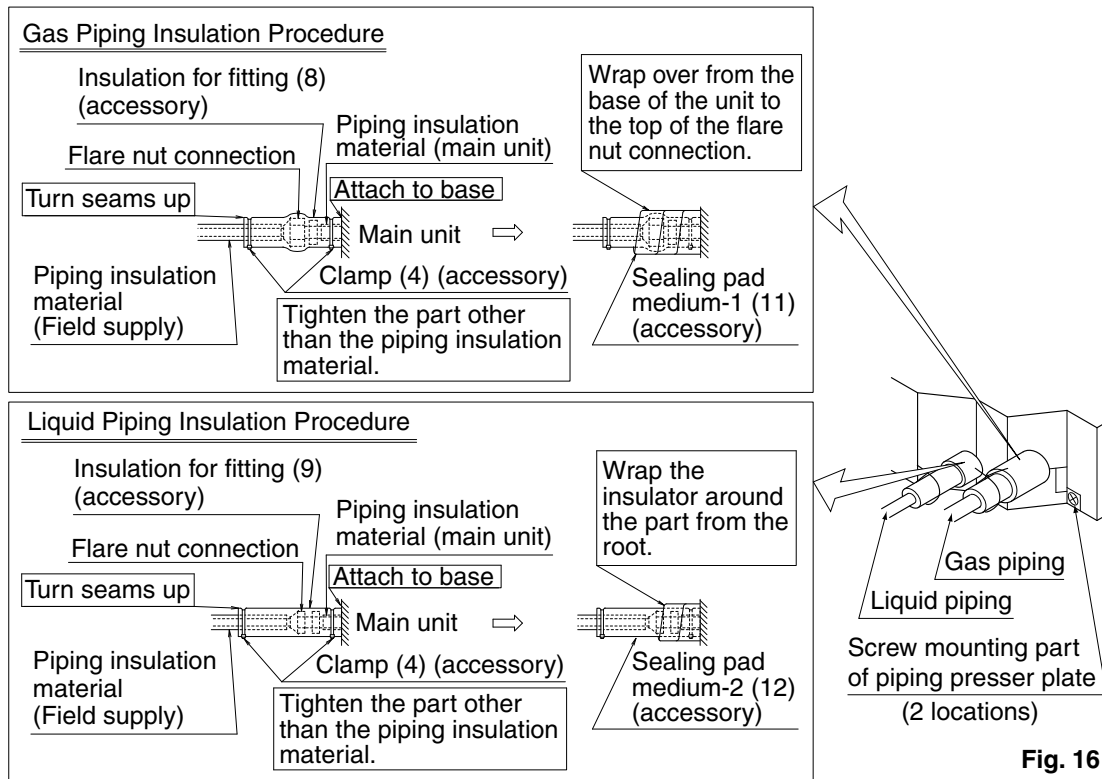

Fig. 16
- Make absolutely sure to execute heat insulation works on the pipe-connecting section after checking gas leakage by thoroughly studying the following figure and using the attached heat insulating materials for fitting (8) and (9). (Fasten both ends with the clamps (4).) **(Refer to Fig. 16)**
- Wrap the sealing pad (11) only around the insulation for the joints on the gas piping side. **(Refer to Fig. 16)**